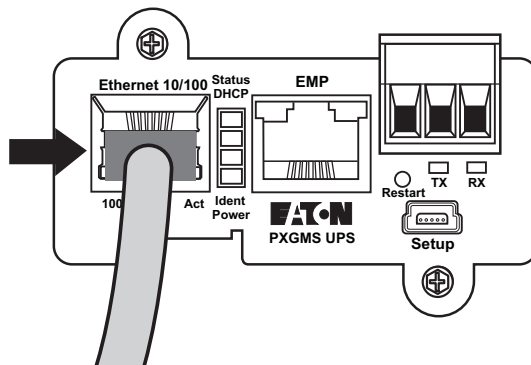

Figure 3. Install the Ethernet Cable
- Connect an active Ethernet cable (not supplied) to the Ethernet 10/100 connector on the PXGMS UPS Card (see Figure 3).